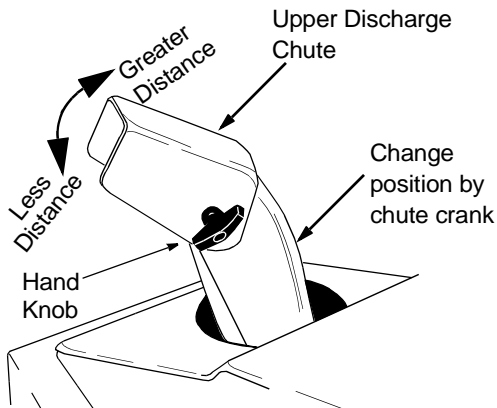

Figure 10
- Loosen hand knobs on two sides and adjust the upper discharge chute up or down as shown in Figure 10. Then use the chute crank to position the entire discharge chute in order to discharge snow with the wind.